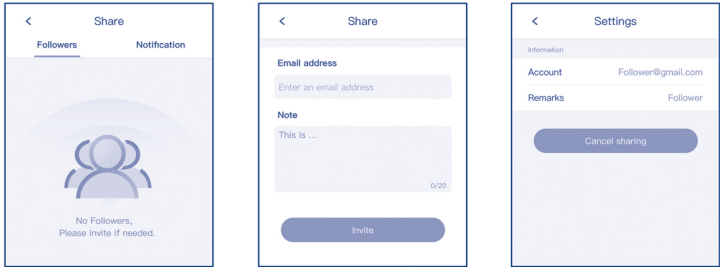

Figure 40
1. Tap Add to invite your Followers. Enter the Follower's email address and add notes as shown in Figure 40. Your Followers open your email invitation on their smartphones that they'll use to follow you. They can then download, install and set up their AnytimeFollow or log in their existing AnytimeFollow account to see your monitoring information.